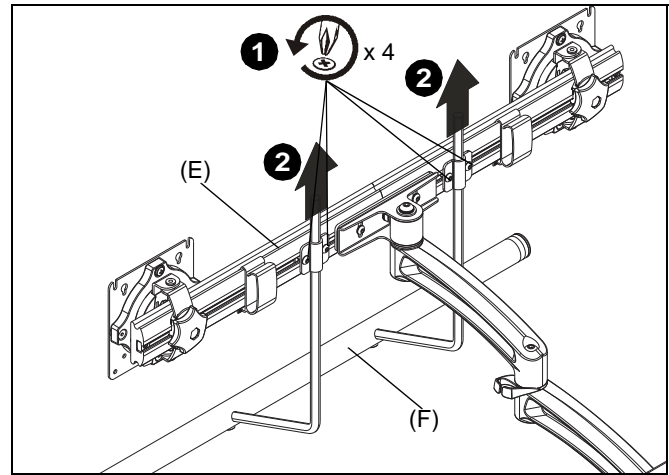

Figure 17
1. Loosen four screws securing handle brackets to K2C22H array. (See Figure 17)
2. Install uprights of handle (J2) into handle brackets located on the back of K2C22 array. (See Figure 17)